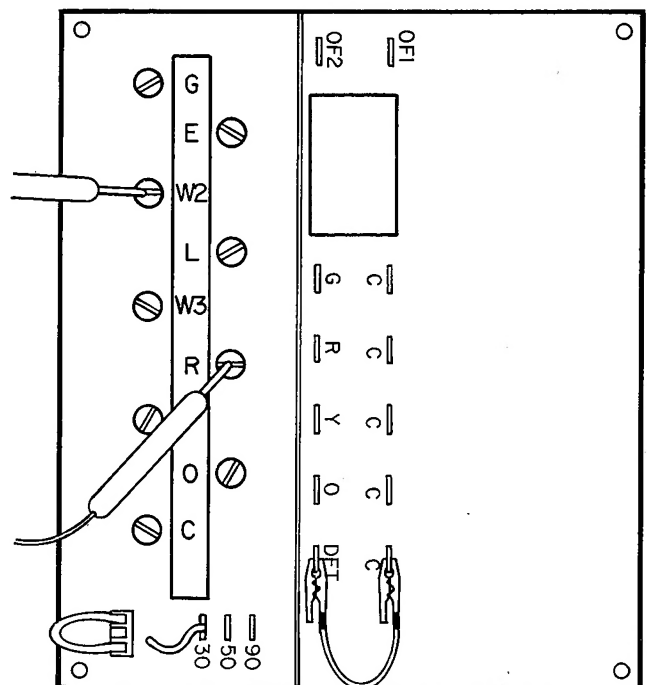

Fig. 11 — Checking Between R and W2
9. Unit is now operating in defrost mode. Using voltmeter, check between R and W2 as shown in Fig. 11.